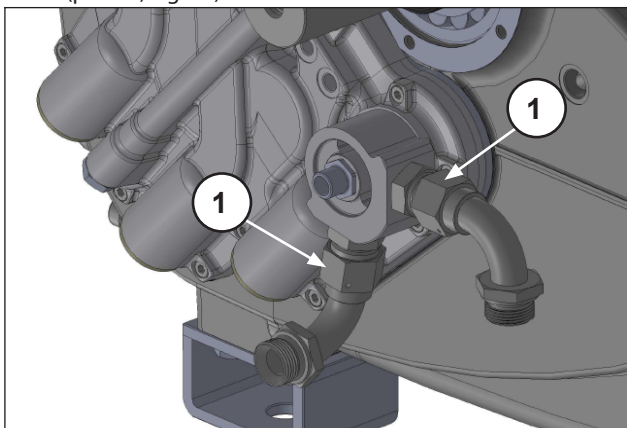

Fig. 18
Undo and remove the two connection bends to the exchanger tubes (pos. ①, Fig. 18).